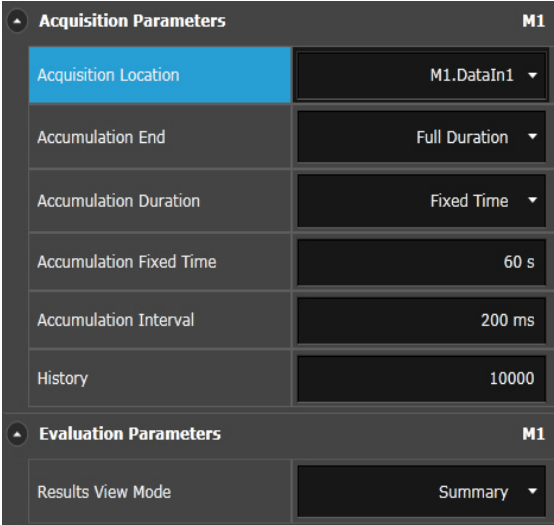

Figure 48      Acquisition parameter settings
- 17 The default acquisition parameter settings are used as shown in Figure 48 on page -88.